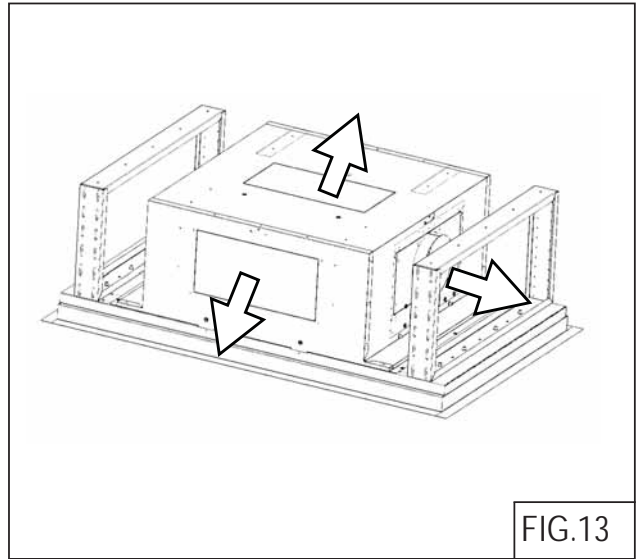

FIG.13
1. Choose blower ducting outlet. Duct options are from top, side or front. FIG. 13